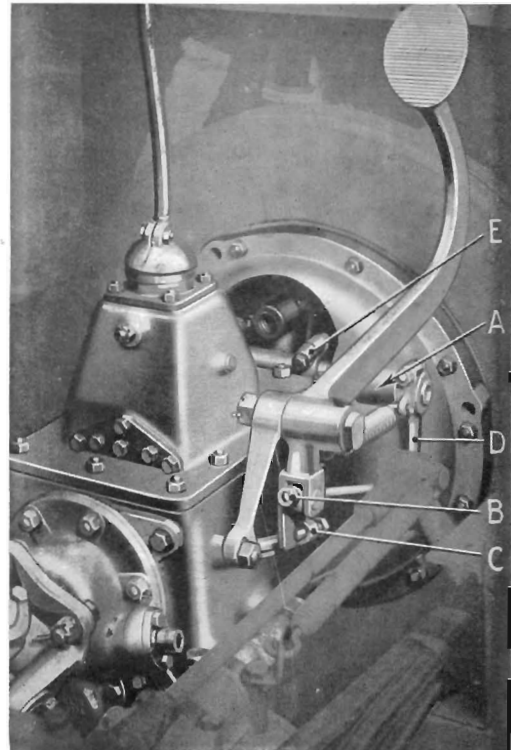
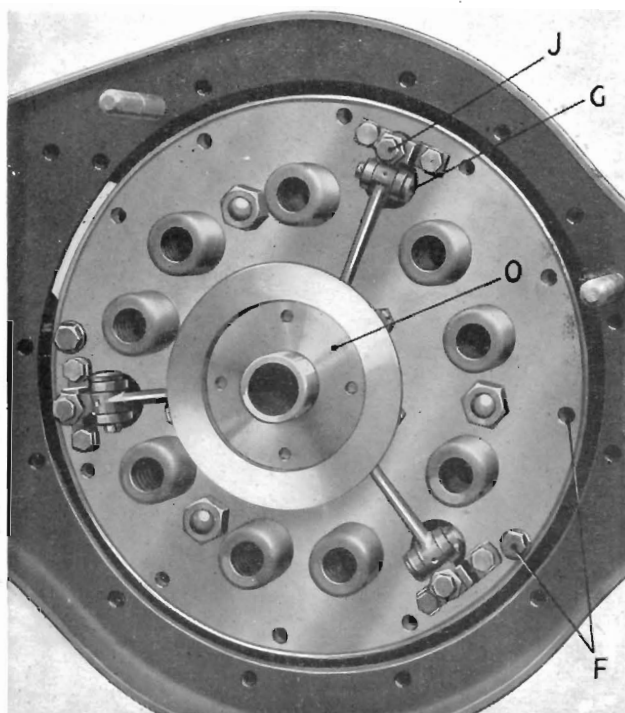
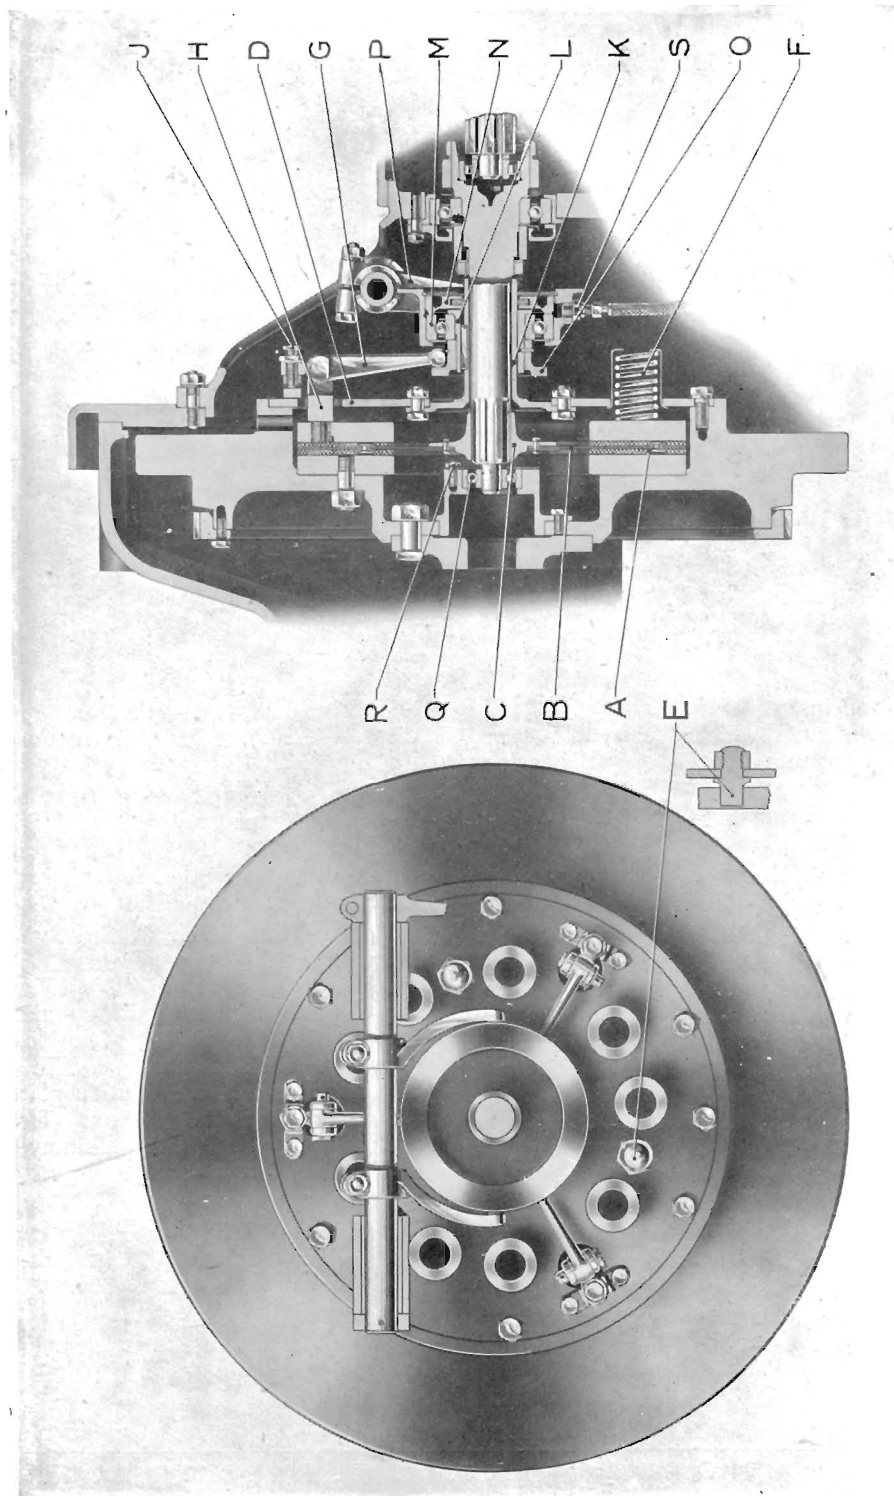

Fig. 1.
Fig. 2.
Fig. 3.
The withdrawal race is lubricated from a nipple in the chassis battery which is connected at the union (S), Fig. 3, separate nipples at (A), Fig. 1, are provided in each of the cross-shaft bushes. The centralising bearing (Q), Fig. 3, is packed with high-melting-point grease on assembly and only requires attention at overhaul.
2. **Cross-shaft Bushes.**—Weekly through the nipples at (A), Fig. 1, using gear oil.
The only adjustment required is to maintain $\frac{3}{4}$ in. free travel on the clutch pedal. To adjust, slack off the lock nut and adjusting nut (B), Fig. 1 until the required free travel is obtained, then tighten the lock nut. The stop-screw (C) should not be disturbed.
When the clutch has been relined the withdrawal fingers require careful adjustment. Check that the pedal is back against the stop-screw (C), Fig. 1, and that the lever (D) is vertical; engage the toggle levers (E) in the slots in the withdrawal housing and tighten the clamp bolts. Adjust each of the withdrawal fingers by means of the screws (J), Fig. 2, so that there is .000 in. clearance between the tips of the fingers and the withdrawal collar (O). **It is most important that all these clearances should be equal to ensure that the clutch withdraws evenly.** Having obtained an equal adjustment, tighten the lock nuts and check that the clutch pedal has the correct free travel.
Disconnect the withdrawal race oil pipe at the union (S), Fig. 3, slack off the toggle lever clamp bolts and remove the gearbox as outlined under "Removal of Gearbox." Take out the setscrews (F), Fig. 2, securing
The flywheel insert can be removed by unscrewing the nuts which secure it to the flywheel. To remove the spigot bearing take out the setscrews (R), Fig. 3, and remove the retaining plate.
Release the circlips and screw out the retaining plug (N), Fig. 3, and withdrawal collar (O); the thrust race housing can then be withdrawn and the bearing pressed out. Check that the key and the keyway in the sleeve (L) are not worn as this will cause chattering. If a new one is fitted check that it will slide freely along the inner sleeve. Renew a badly worn thrust race, locking it in the housing with the locking plug and observing that one of the four slots in the plug registers with the oil hole in the housing. Lock the plug and collar with the circlips.
When re-assembling the clutch, smear the springs and driving pegs (E), Fig. 3, with graphite grease. Clamp the pressure plate
Pack the spigot bearing (Q), Fig. 3, with high melting point grease (See Section on "Lubricants.") If the bearing has been removed, replace the retaining plate and setscrews and wire the setscrews together.
Couple up the oil pipe at (S), Fig. 3, and lubricate the thrust race.